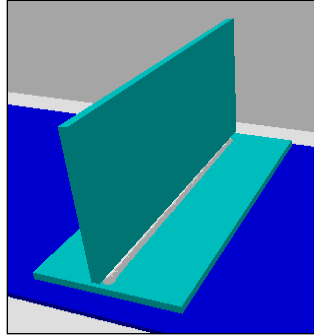

Figure 32: T-joint weld
- **T-joint weld:** A T-joint weld is shown in Figure 32: T-joint weld.